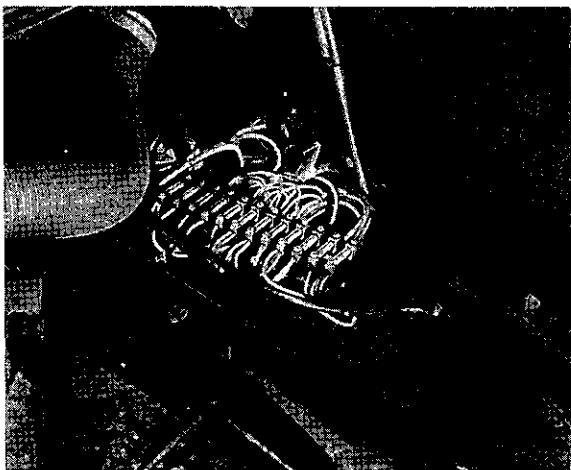

Fig. 24
13. Connect ground wire to ground terminal screw. Connect red wire (without snap-on connector) of wire loom to Fuse 4 in the fuse box (see Fig. 24).